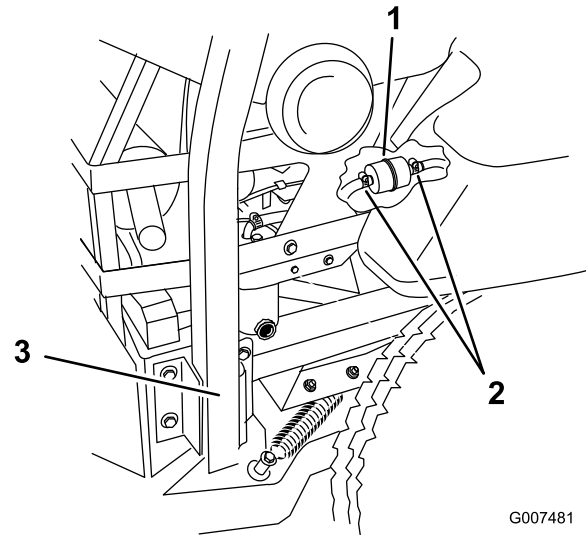

Figure 11
5. Loosen the two hose clamps and disconnect the fuel lines from the fuel filter (Figure 11).